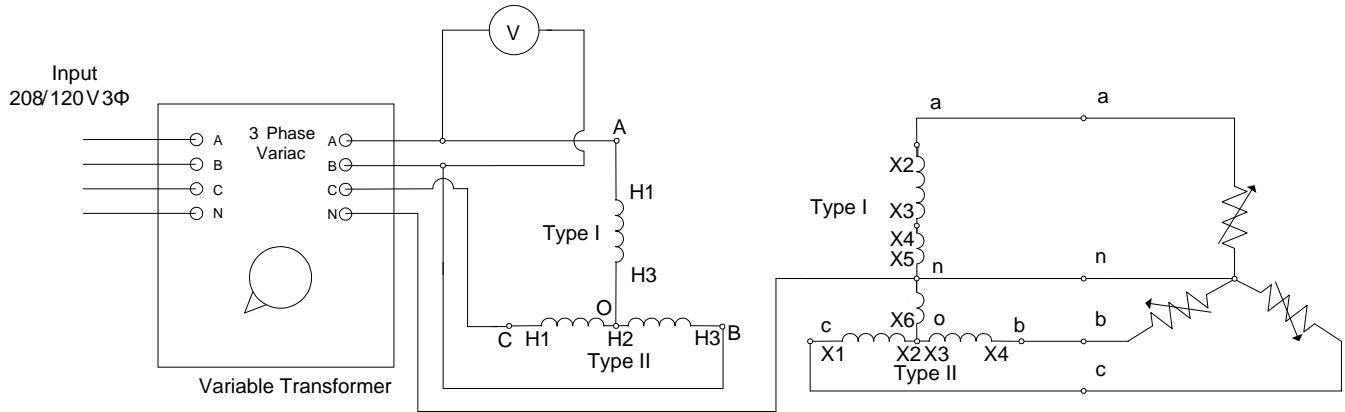

Figure 6- T-T Connection
13. Using a Type I and a Type II, construct the circuit shown in Figure 6. Use shorting strips to connect X₃ and X₄. **Have the Instructor check your circuit.**